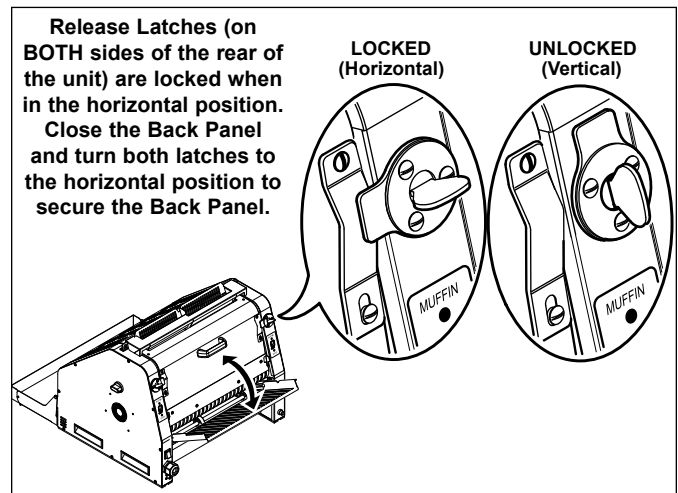

Figure 10. Back Panel Release Latches
9. Close the Back Panel and lock the Back Panel Release Latches (Figure 10).